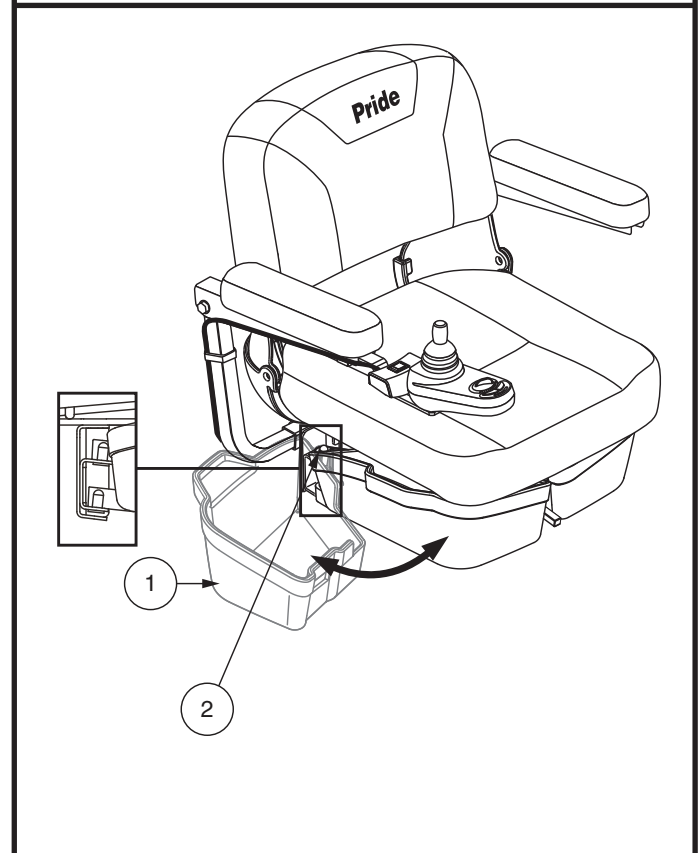

Figure 14. Under-seat Storage
1. Lift up slightly on the latch on the side of the under-seat storage bin (**See figure 14**) and swing the under-seat storage bin out and away from the travel chair.
1. Lift up slightly on the latch on the side of the under-seat storage bin (**See figure 14**) and swing the under-seat storage bin out and away from the travel chair until it is fully open.
1. Remove the rearmost screw that holds the under-seat storage (if equipped) (see figure 14) hinge to the seat base on both the left and right seat hinges.